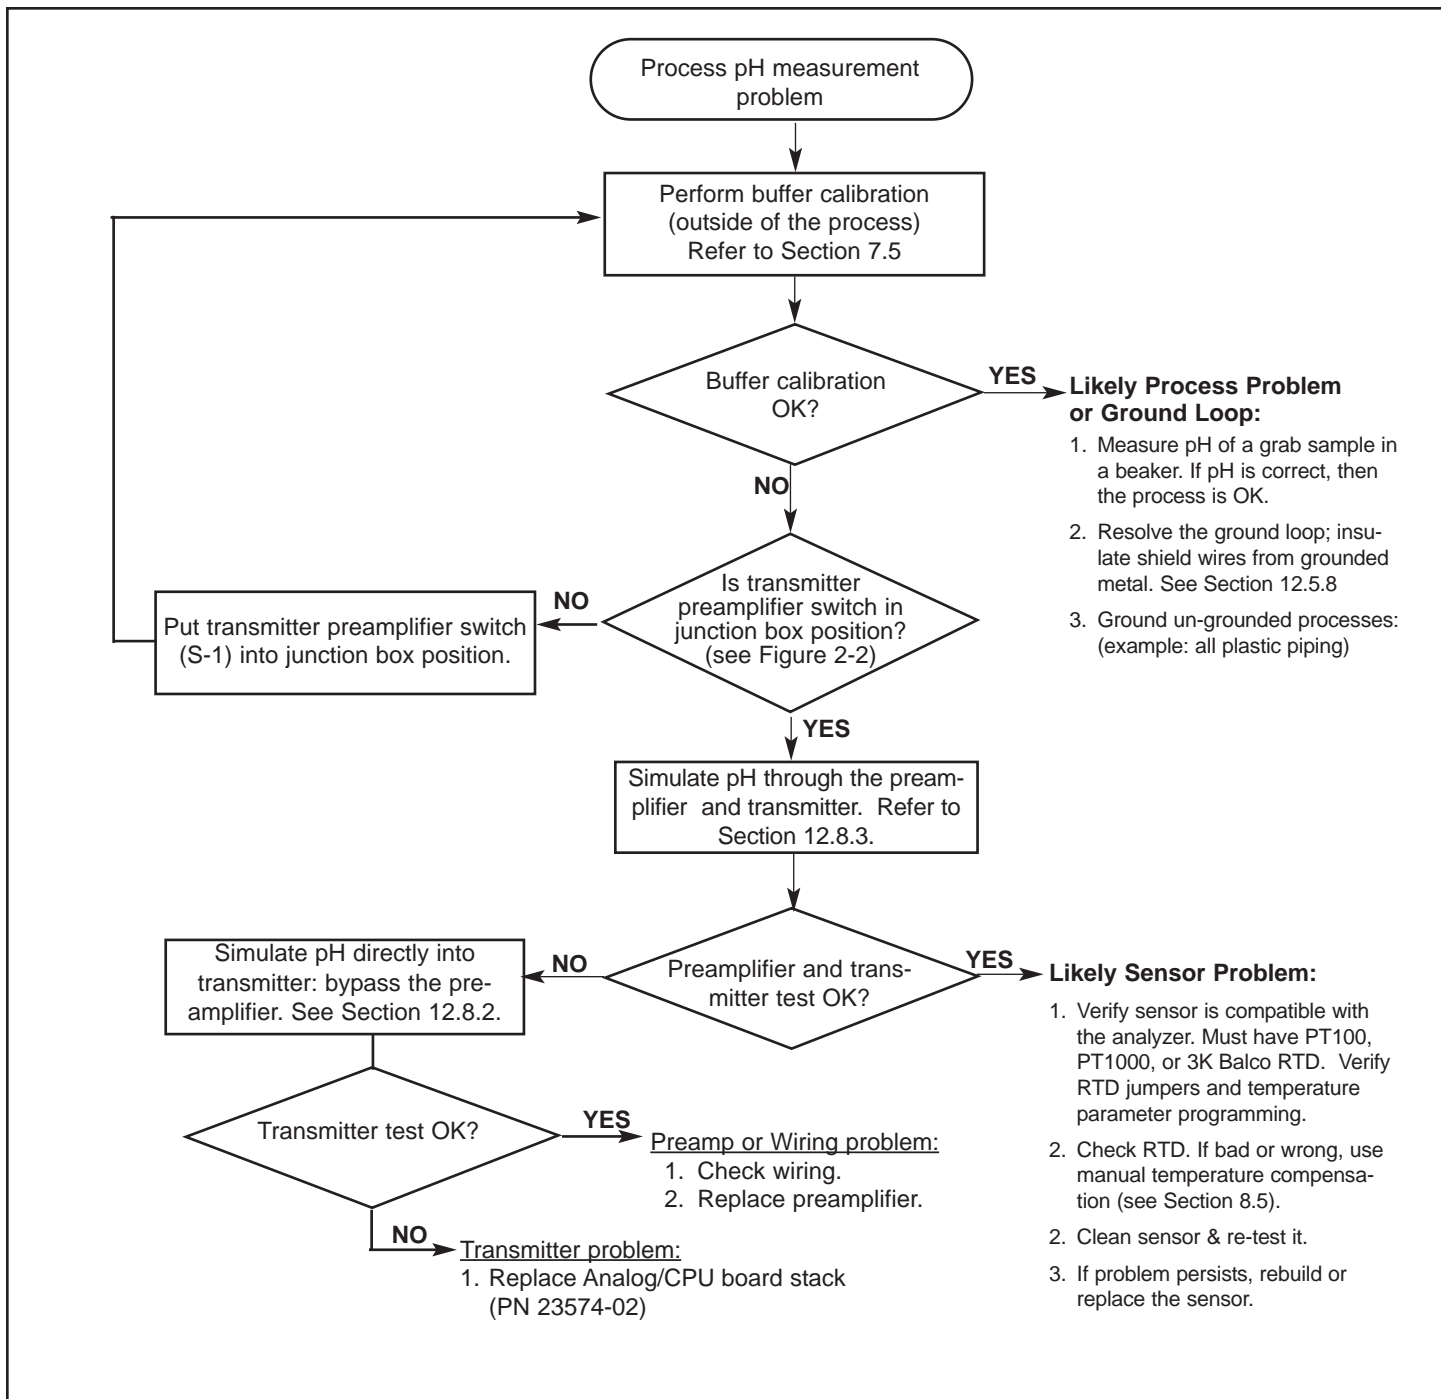

FIGURE 12-5. Troubleshooting Flow Chart / Preamplifier in Sensor-Mounted Junction Box or Remote Junction Box
- a. **If an accessible preamplifier is in the sensor or remote junction box, use Figure 12-5.**